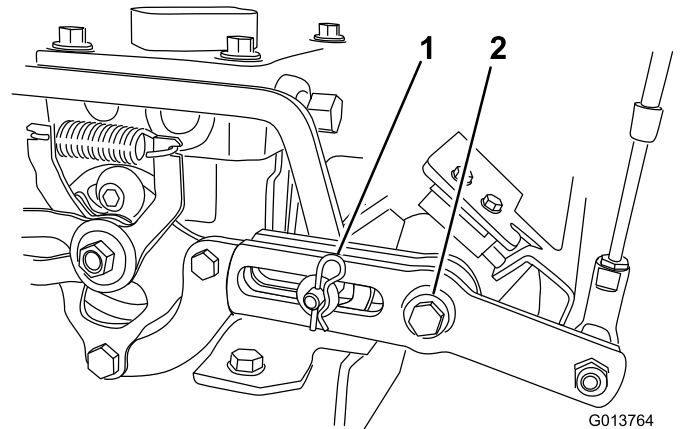

Figure 8
3. Loosen the bolt that goes through the center of the left hand shoulder hub and control fork (Figure 8).
4. Remove the hairpin cotter pin and washer from the end of the left hand speed control linkage assembly (Figure 8).